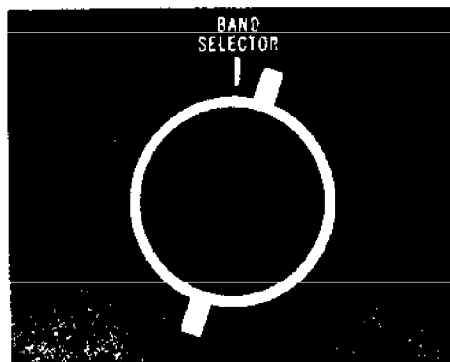

Figure 3. View showing Band Selector Switch
2. Turn the BAND SELECTOR knob left to the red dot. (See Fig. 3.)